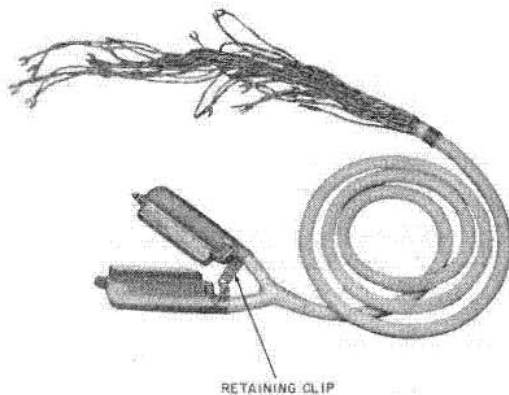

Fig. 1—148A (MD) or 148B Adapter
##### 148A (MD) and 148B Adapters (Fig. 1)
- Connectors are held together by a retaining clip (Fig. 1) for protection during shipment.
- The 148B adapter is identical to the 148A (MD) adapter, except that the cordage incorporates the even-count color code. The 148B-87 adapter has replaced the 148B-49 (MD) adapter. The 148B-87 is identical to the 148B-49 (MD) except the 148B-87 is equipped with a satin-silver cord.